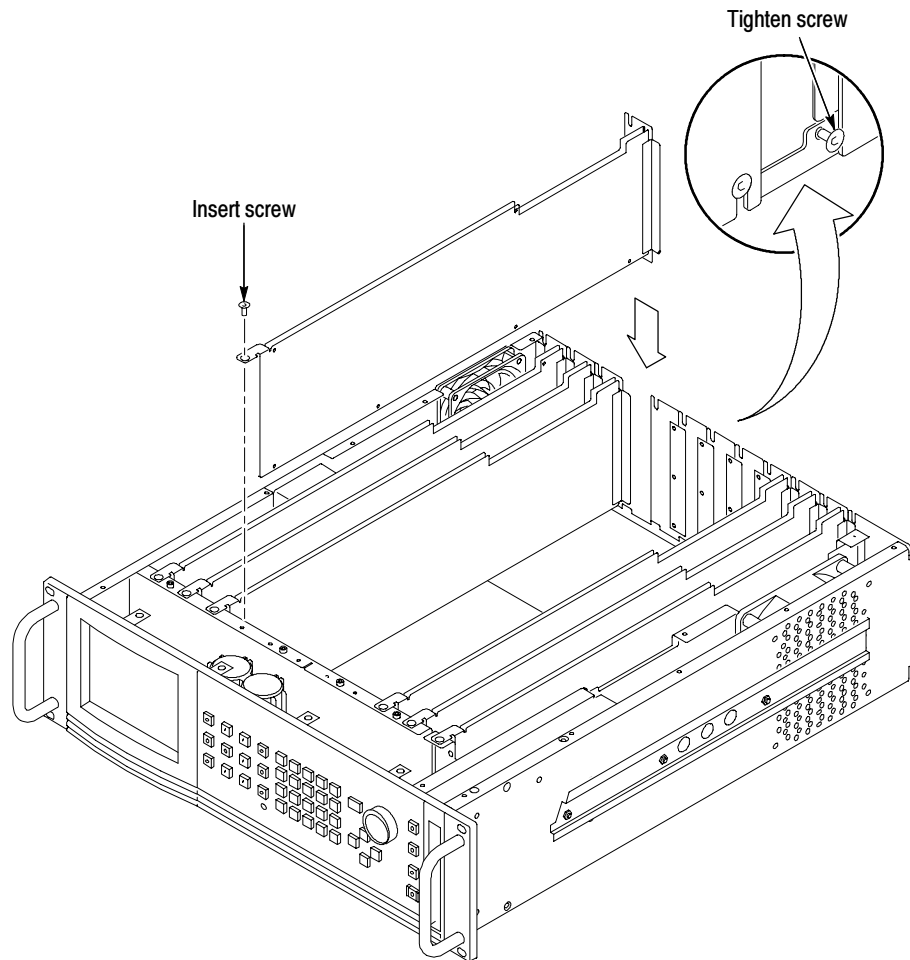

**Figure C-3: Rear panel removal**
5. Remove the appropriate rear panel as shown in Figure C-3. Loosen, but do not remove the bottom screw. You will use it later to secure the module.
4. Remove the appropriate rear panel as shown in Figure C-3 on page C-4. Loosen, but do not remove the bottom screw. You will use it later to secure the rear panel.